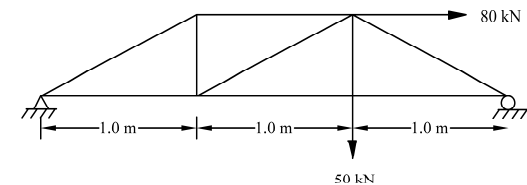

Fig.5
6. Find out the member forces for the truss shown in the Fig.5 by using method of joints.